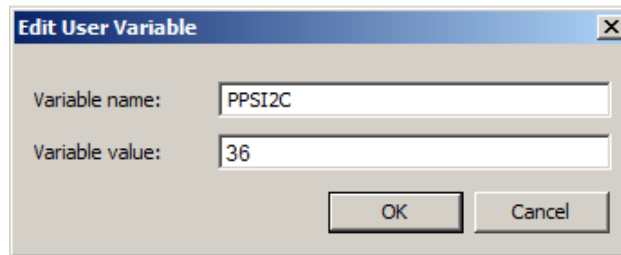

Figure 10. Edit User Variables Dialog
- In the *User Variables* section of the dialog, scroll through the list to see whether the variable PPSI2C shows. If the variable is not already listed, click the *New* button. If the variable name PPSI2C already exists in the list, click on PPSI2C to select it, and then click the *Edit* button. The *Edit User Variable* window appears, as shown in Figure 10.
- In the window shown in Figure 10, type "PPSI2C" as the *Variable name* (for new variables). The *Variable value* should be "36" for TAS5707/09 and "3A" for TAS5707A/09A. Click *OK* and close the dialog boxes.